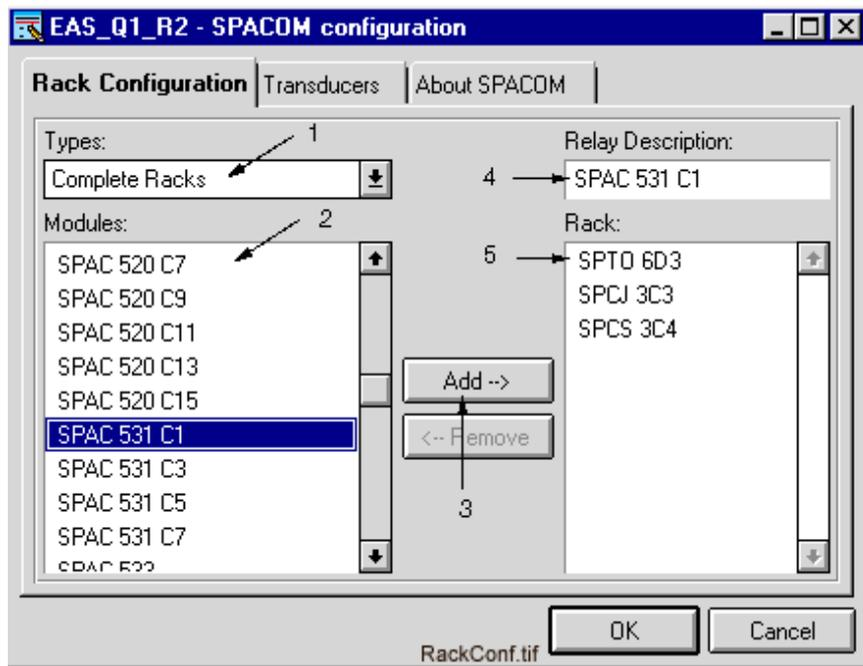

Fig. 3.3.3.1.-1 Rack Configuration dialog
By clicking the Attributes button in the General Object Attributes dialog, the configuration dialog containing three tabbed pages appears on the screen (see Fig. 3.3.3.1.-1).
The type of module to be configured can be selected in the drop-down combo in the upper left-hand corner of the Rack Configuration page (see Fig. 3.3.3.1.-1, item 1). This drop-down combo box contains a list of preconfigured relays or a list of different modules depending on which type has been selected. Possible types are presented in Table 3.3.3.1-1.